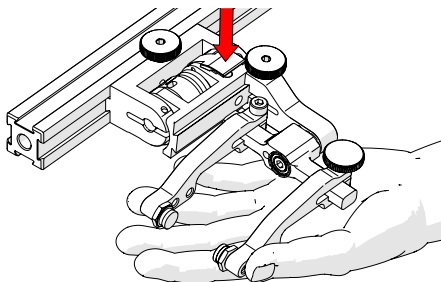

Fig. 73 - Lift slightly and press latch
2. Lift the probe holder slightly and press the latch button (Fig. 73) to release the probe holder to the full 45° degrees.